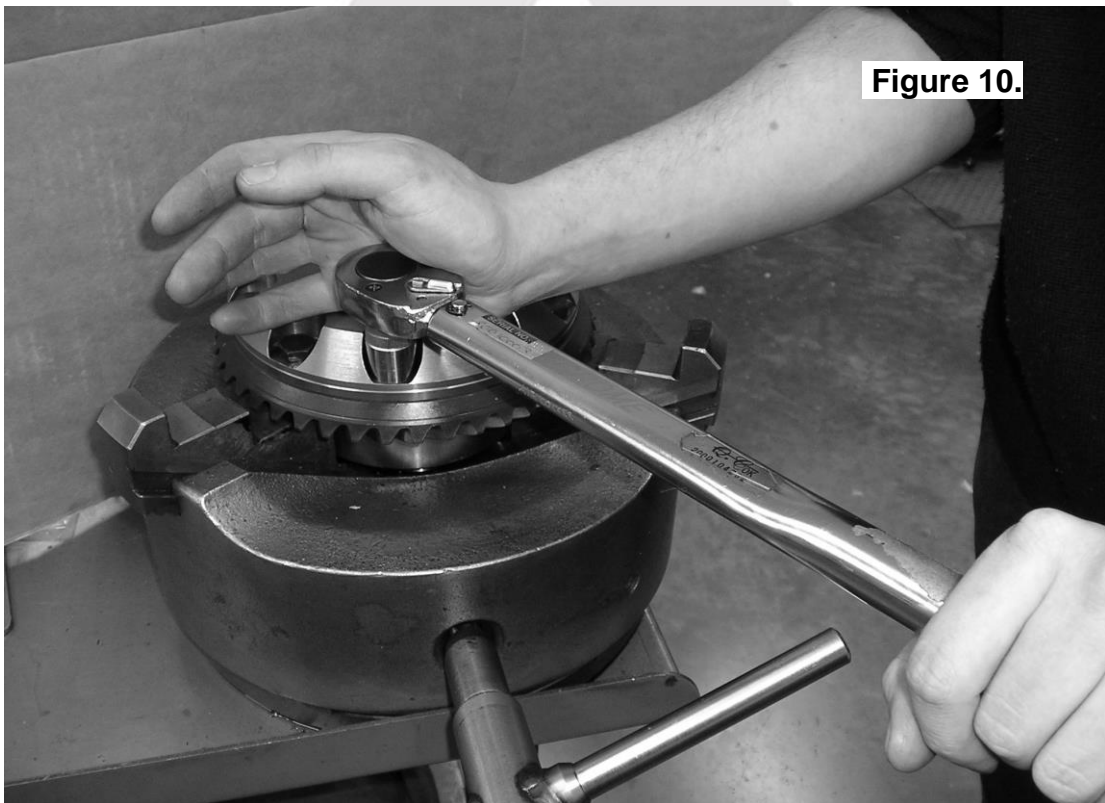

Figure 10.
- Tighten the ring gear bolts in a star pattern with a torque wrench (Fig. 10.) set to your vehicle manufacturer's specified torque.